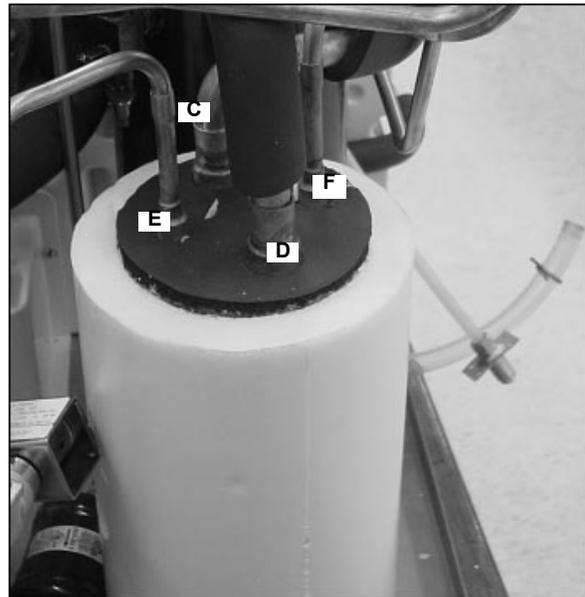

FIGURE 42
41. Protecting the Armaflex insulation, as well as the foam insulation on the accumulator, braze the suction inlet (C) and outlet (D) (FIGURE 42).
42. Braze the liquid line inlet (E) and outlet (F) to the accumulator (FIGURE 42).